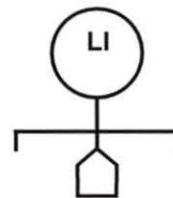

Figure 40. Level Sensing Element Symbol
4. Determine which type of level sensing element symbol is shown in figure 40.